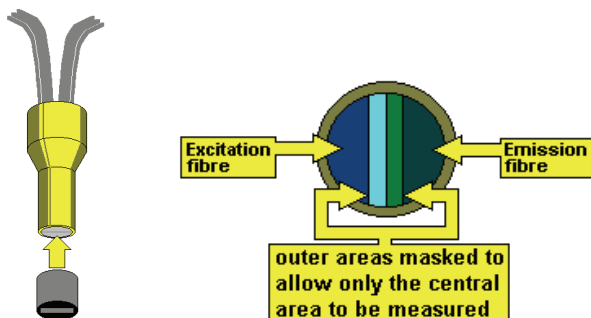

Figure 56 Masking the outer areas
10. Turn the fibre until it is vertical and tighten the grub screw, as shown in Figure 56.